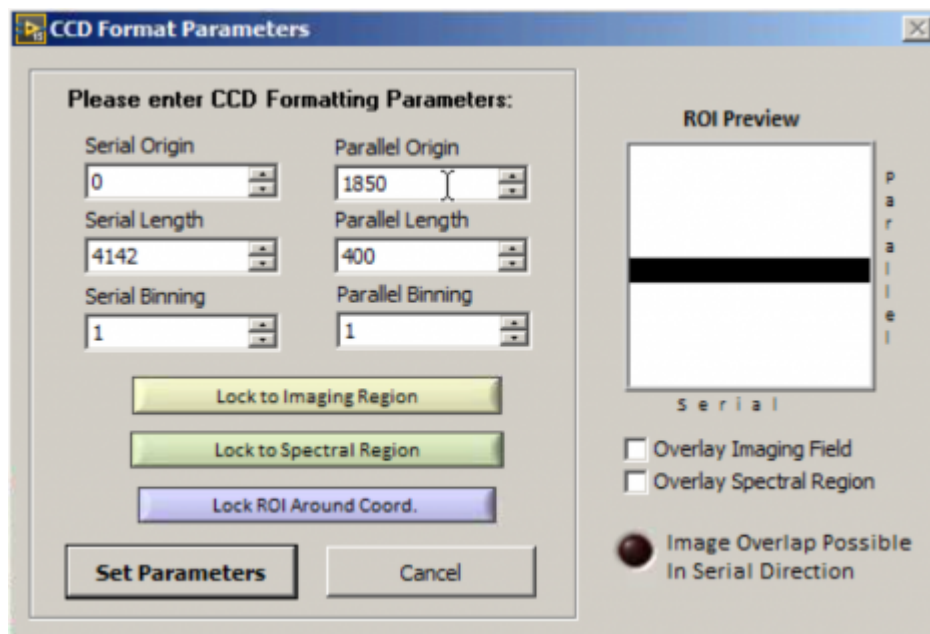

Figure 3: Selecting the CCD geometry (user-defined ROI)
- Change the ROI to speed up the process (see Figure 3).